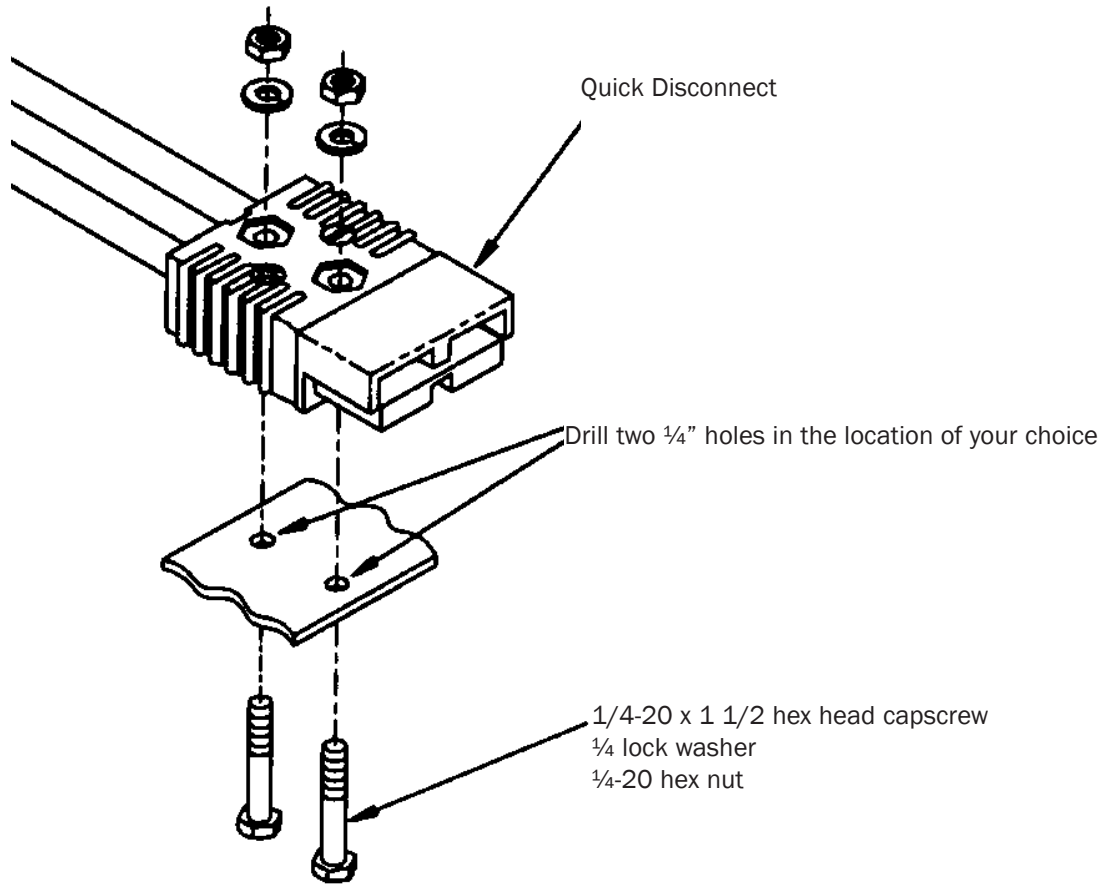

FIGURE 2
3. The 6-foot electrical quick-connect cable furnished is intended for connection to the battery on vehicle front receiver installations. For winch use at the rear of vehicle, longer quick-connect cables are available from Warn dealers. For 20-foot kit, order part number 32963. For 24-foot kit, order part number 32966. Choose a location on the bumper or grille to mount the quick-connect plug as shown in Figure 2. Be sure that the plug from the winch will reach when the multi-mount is inserted in the receiver with hitch pin in place. Connect the + and - cable ends to the vehicle battery.